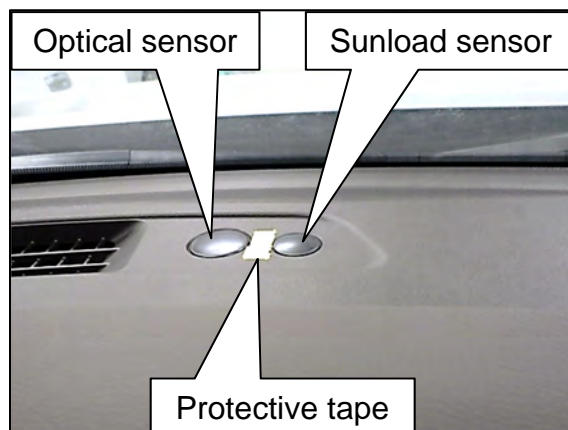

Figure 116
80. Apply protective tape to the instrument panel in between the optical sensor and the sunload sensor, as shown in Figure 116.